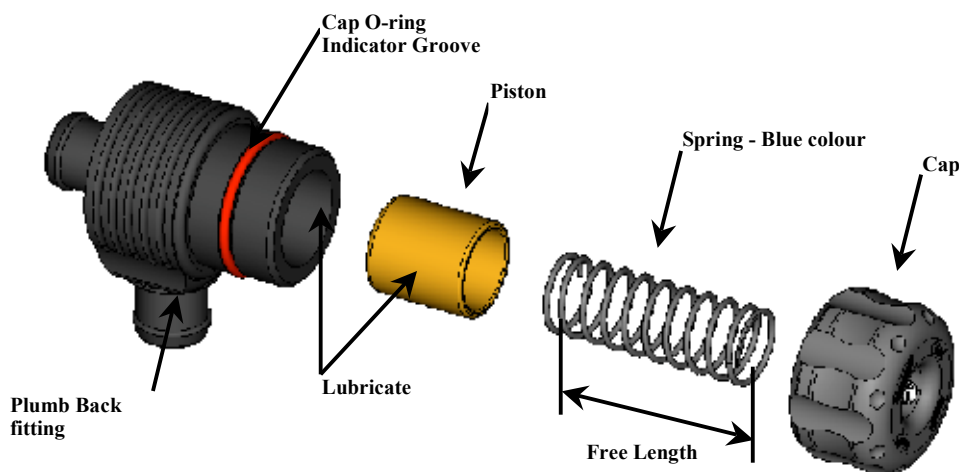

Figure 3 Exploded View of the Kompact PB BOV
- Rotate the cap in the direction of soft to decrease the spring tension – **CAUTION** Do not rotate the cap beyond the indicator groove (see figure 3).
- Lubricate the bore and the piston with Turbosmart lubricant (see figure 3) – **DO NOT** use grease or viscous oils.